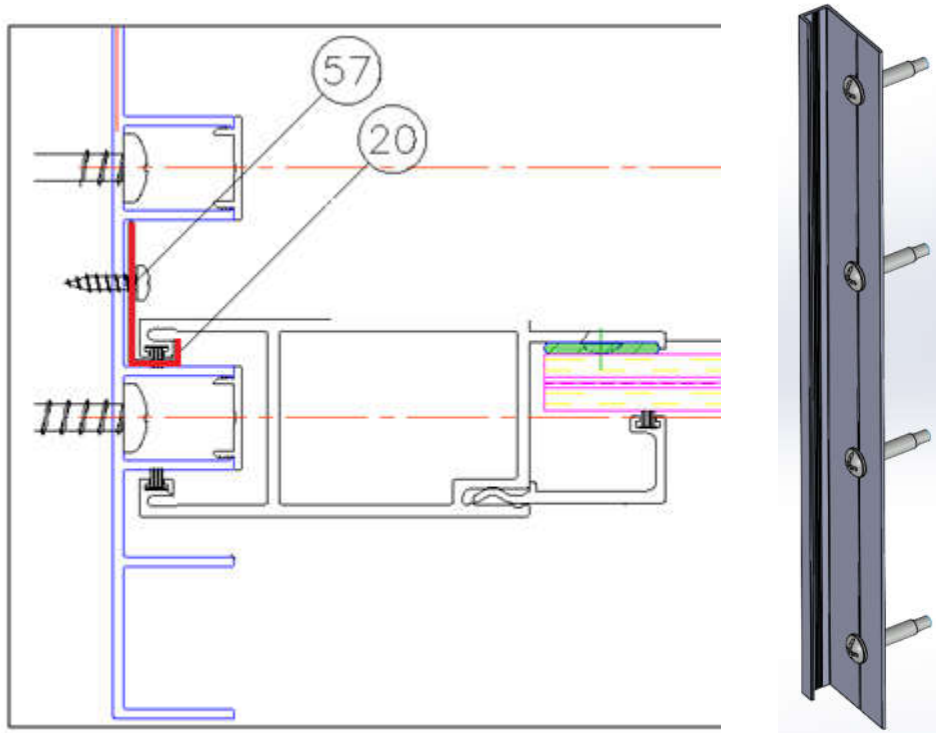

Figure 23
- 1) Each fixed panel has one 10 inch fixed panel clip, and one full jamb length vinyl fixed panel clip screw cover. See Figs. 23 & 24.